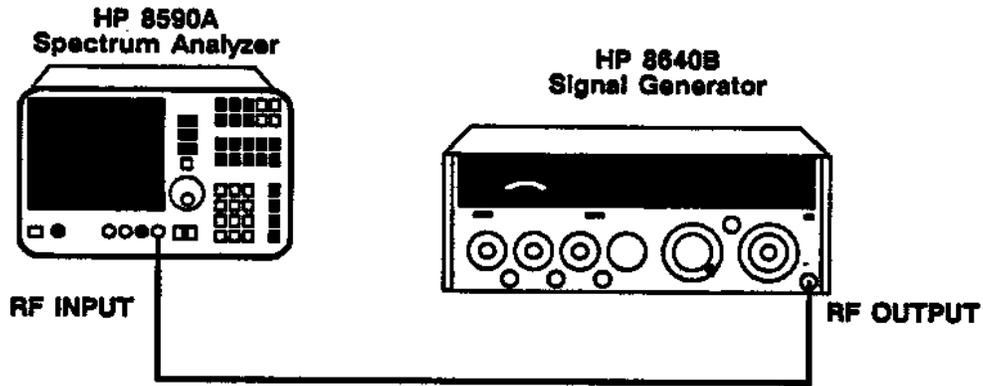

Figure 1-2. Noise Sideband Test Setup
2. Connect the equipment as shown in Figure 1-2. If your analyzer has Option 001 (75 ohm RF input), connect the 75 ohm side of the minimum loss adapter to the 75 ohm cable, connect the other end of the 75 ohm cable to the RF input of the analyzer, and connect the 50 ohm cable from the signal generator to the 50 ohm side of the minimum loss adapter.